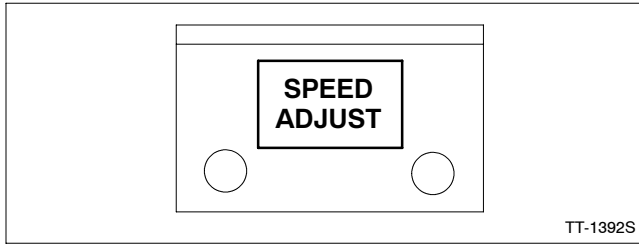

Figure 5 Bracket with Decal Attached
- 2.5 With bracket (GM30860) surfaces clean and dry, attach decal (GM30862) as shown in Figure 5.